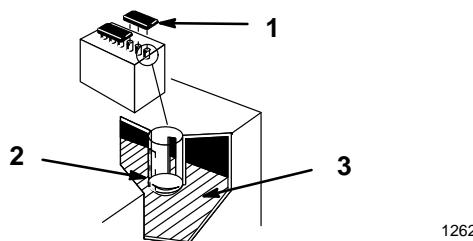

Figure 27
1. Open covers to see into the cells. The electrolyte must be up to the lower part of the tube (Fig. 27).
IMPORTANT: Do not allow the electrolyte to get below the plates. (Fig. 27).
2. Lift off the filler caps (Fig. 27).
3. Slowly pour distilled water into each battery cell until the level is up to the lower part of the tube (Fig. 27).